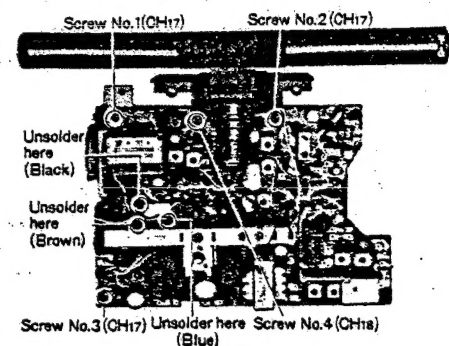

Fig. 5
4. Remove the three (3) screws (nos. 1, 3 & 4) for the dial assembly, as shown in fig. 5.
2. Remove two (2) screws for the gyro-antenna(nos. 2 & 4), as shown in fig. 5.
4. To remove gyro-antenna completely unsolder lead wires from chassis, as shown in fig. 5.